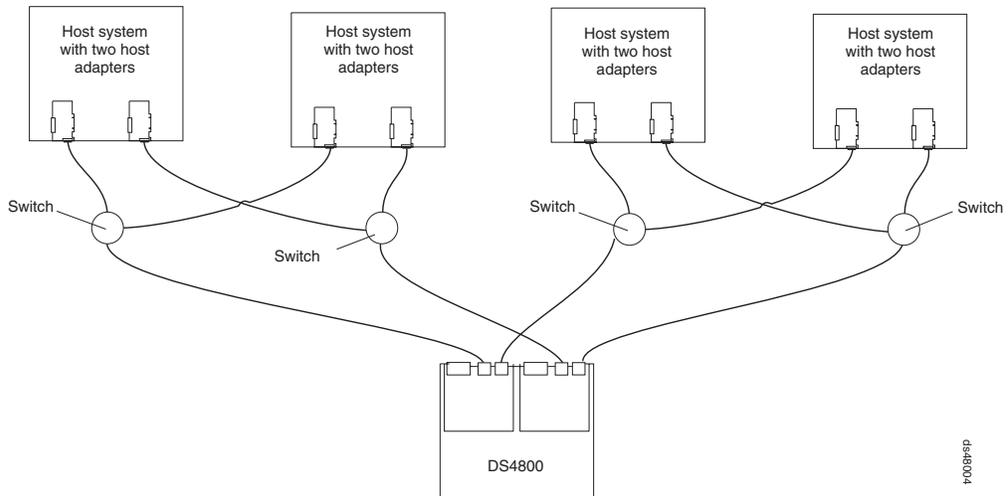

Figure 56. Example of a two-cluster configuration
- Two clusters, as shown in Figure 56 on page 72